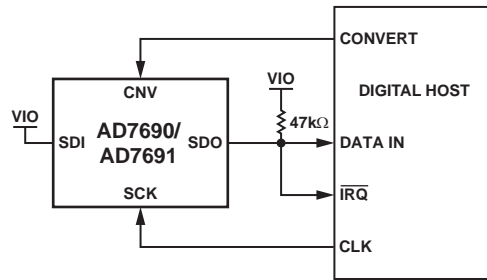
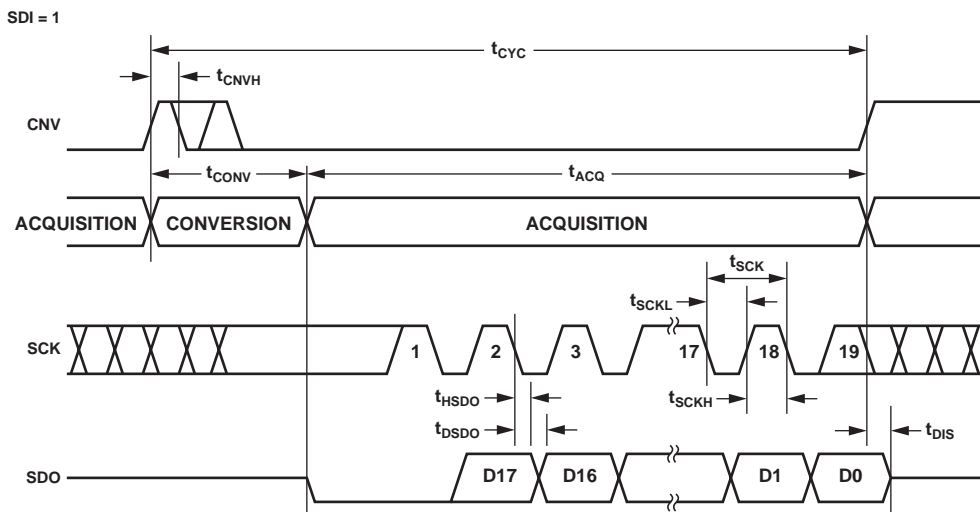
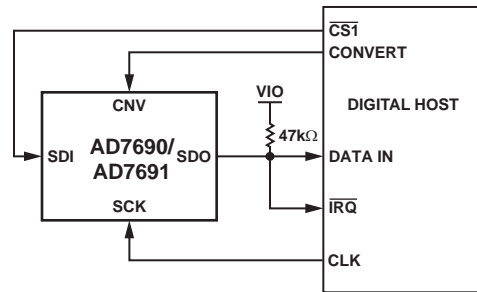
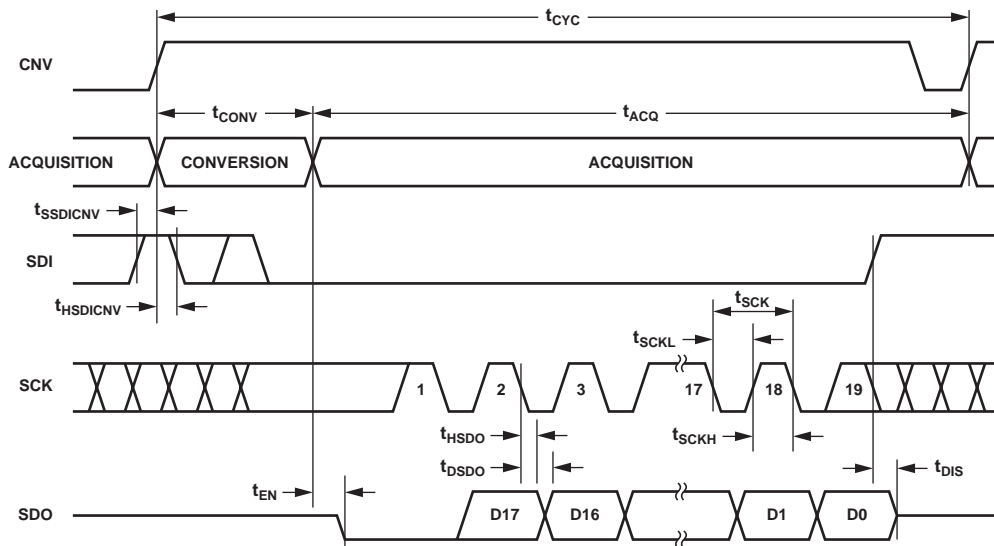

Figure 13. $\overline{\text{CS}}$ Mode 3-Wire with BUSY Indicator Connection Diagram (SDI High)
Figure 14. $\overline{\text{CS}}$ Mode 3-Wire with BUSY Indicator Serial Interface Timing (SDI High)
Figure 17. \overline{CS} Mode 4-Wire with BUSY Indicator Connection Diagram
Figure 18. \overline{CS} Mode 4-Wire with BUSY Indicator Serial Interface Timing
- In the $\overline{\text{CS}}$ mode, if CNV or SDI is low when the ADC conversion ends (Figure 14 and Figure 18).
The connection diagram is shown in Figure 13 and the corresponding timing is given in Figure 14.
The connection diagram is shown in Figure 17 and the corresponding timing is given in Figure 18.